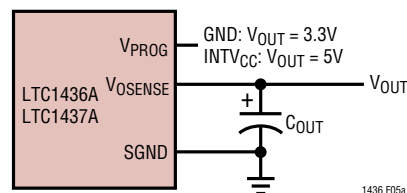
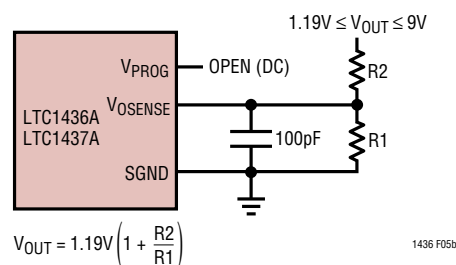

Figure 5a. LTC1436A/LTC1437A Fixed Output Applications
Figure 5b. LTC1436A/LTC1437A Adjustable Applications
The LTC1436A/LTC1437A family also has remote output voltage sense capability. The top of an internal resistive divider is connected to V_{OSENSE}. For fixed 3.3V and 5V output voltage applications the V_{OSENSE} pin is connected to the output voltage as shown in Figure 5a. When using an external resistive divider, the V_{PROG} pin is left open (DC) and the V_{OSENSE} pin is connected to the feedback resistors as shown in Figure 5b.